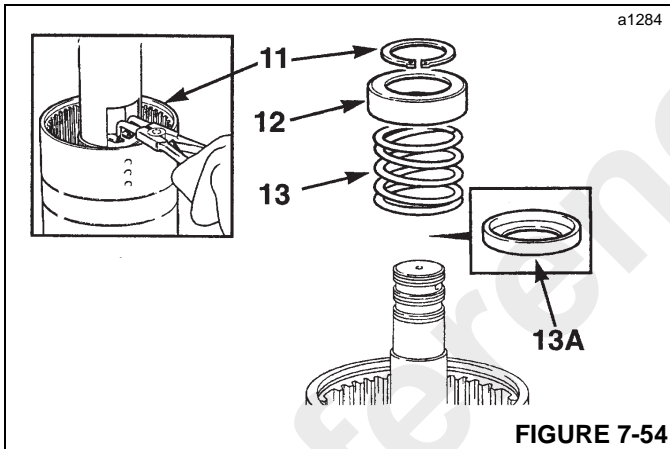

FIGURE 7-54
11. Position the clutch in a press to compress the piston spring, then remove the retaining ring (11, Figure 7-54).
12. Lift off spring retaining plate (12).
13. Remove spring (13).